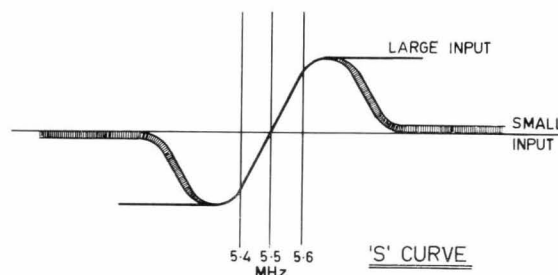

Fig. 3
- (c) Transfer display unit to junction of R131 and C143 and adjust the core of L113 for a waveshape symmetrical about 5.5 MHz see Fig. 3.